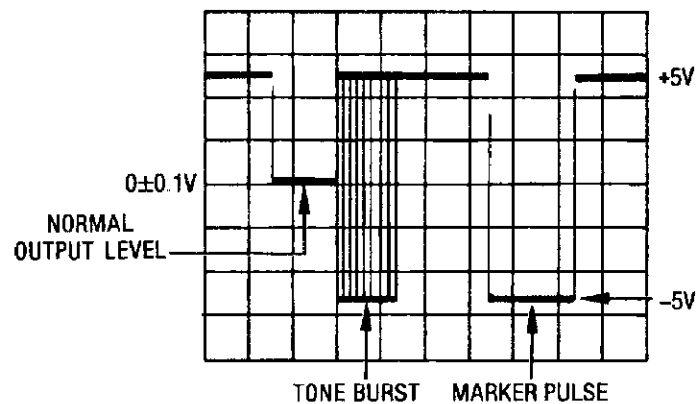

Figure 5-62. Marker Waveform
11. Using the GND on channel 1 of the oscilloscope, set a reference for normal output level (see figure 5-62).